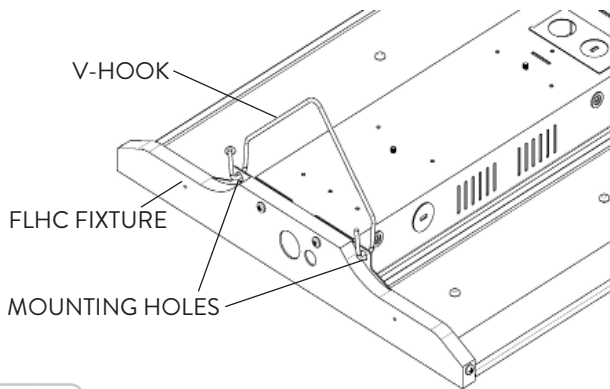

FIG. 1
- 1 Install the FLHC V-Hook into the Mounting Holes of the FLHC Fixture (Fig. 1). All fixtures have Mounting Holes (4) at the top (two on each side).